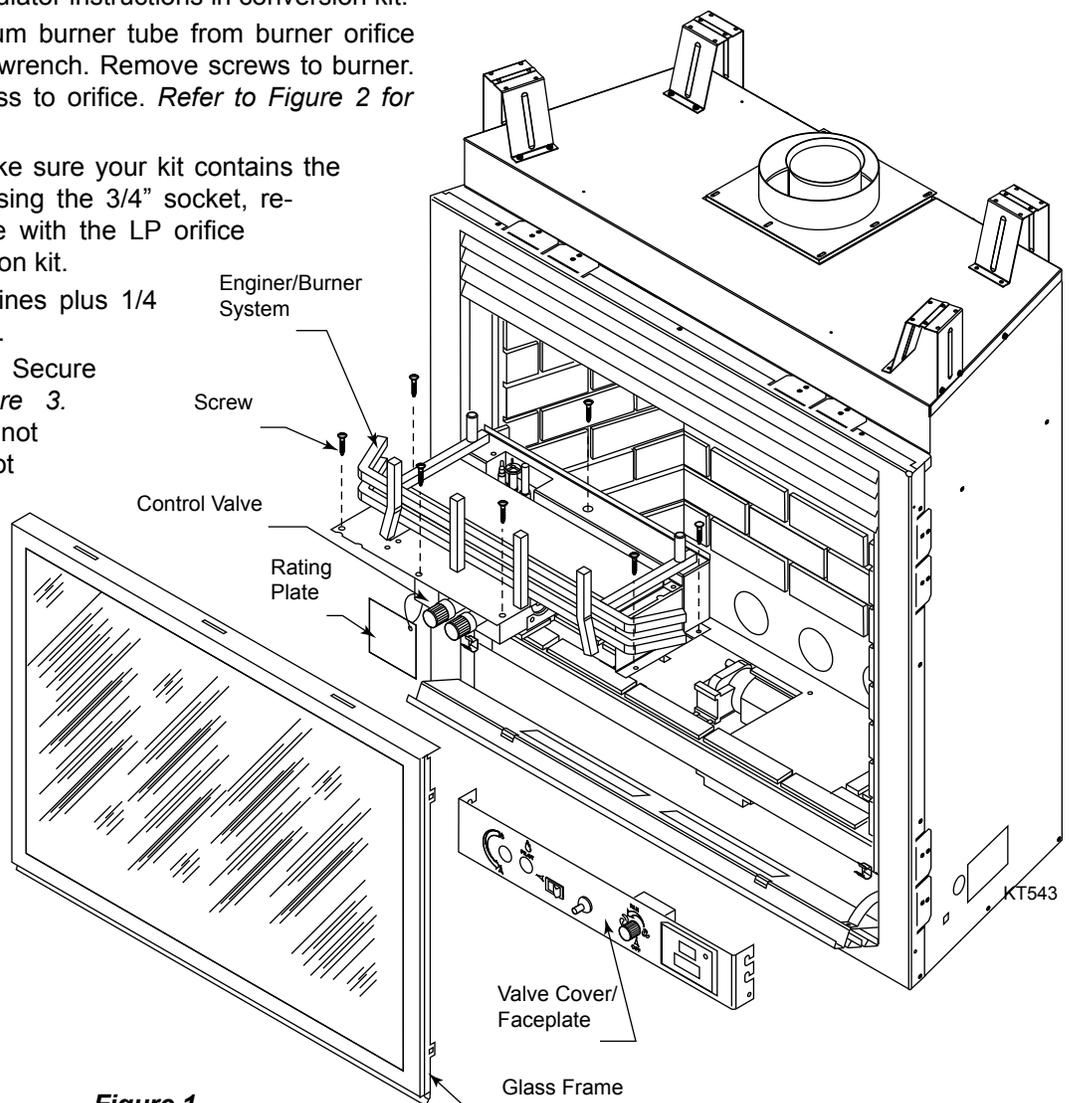

Figure 1
3. Remove valve cover/faceplate from the unit. *Figure 1*
6. Remove the screws securing the engine/burner system. Lift the engine/burner system out through the glass door opening. *Figure 1*. For electronic units, remove ignition module with engine/burner assembly.
4. Place the Propane Conversion rating label plate and the regulator's conversion label on the existing rating plates. *Refer to Figure 1* for rating plate and conversion label locations. Attach conversion label to control valve.
4. Place the Propane Conversion rating plate and the regulator conversion label on the existing rating plates. *Refer to Figure 1* for rating plate and conversion label locations. Attach conversion label to control valve.